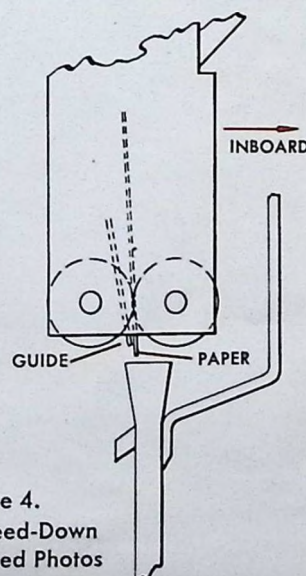
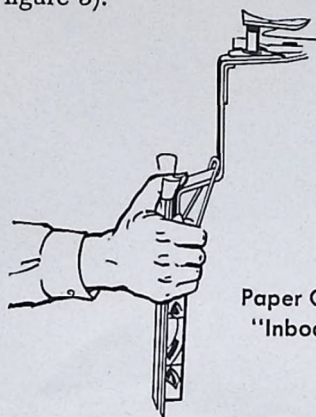

Figure 4.
Figure 5.
c. Should paper strips not feed properly into paper carriers, re-alignment of carriers to Feed-Down Assembly may be necessary. However, before making any adjustment, make certain that the Spider Assembly is positioned correctly on the transmission shaft. The positioning pin on top of the transmission shaft collar must fit into the slot on the spider assembly casting (see figure 4).
(1) Paper strips should feed into the "outboard" side of the paper carrier openings, clearing the flanged lips of each carrier. Should paper strips hit one edge of flanged lips a lateral adjustment is required. To adjust for proper clearance, loosen lock nut #259 and adjust screw #636 on Spider Assembly (see page 35).
(2) "Inboard" or "outboard" adjustment is made by bending chute guide of Feed-Down Assembly in or out as required for clearance (see figure 5).